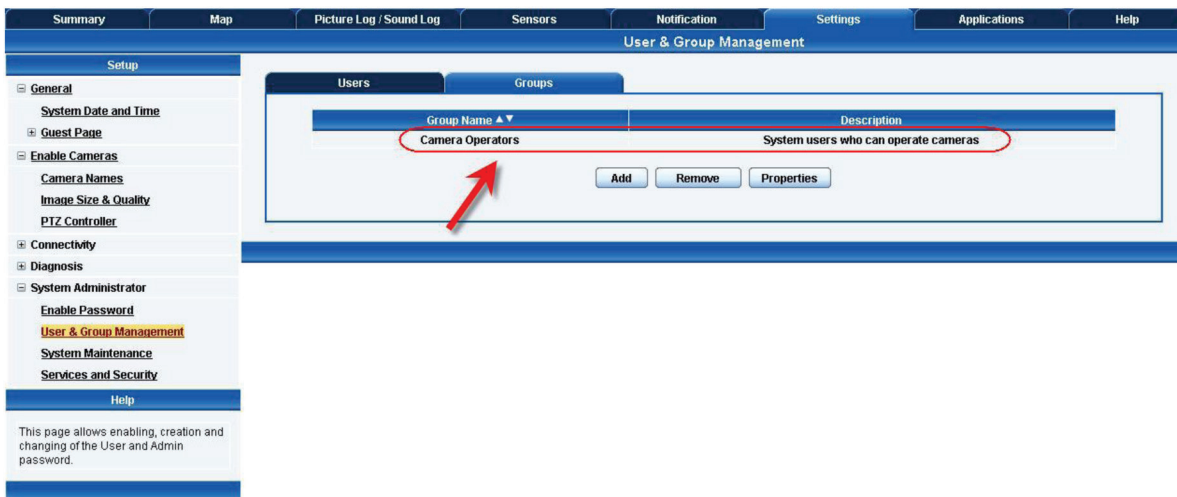

Figure 3-17. Camera Operators group added.
7. The new group “Camera Operators” has been added to our group list as shown in Figure 3-17.